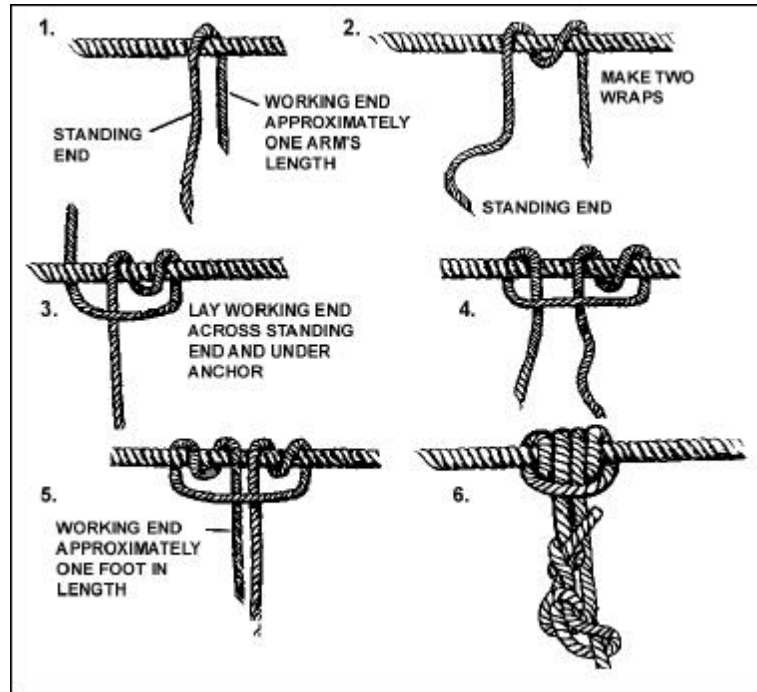

Figure 1-20. End-of-the-rope prusik knot.
(3) *Third method.* Another way of tying a prusik knot is the end-of-the-rope knot (Figure 1-20).